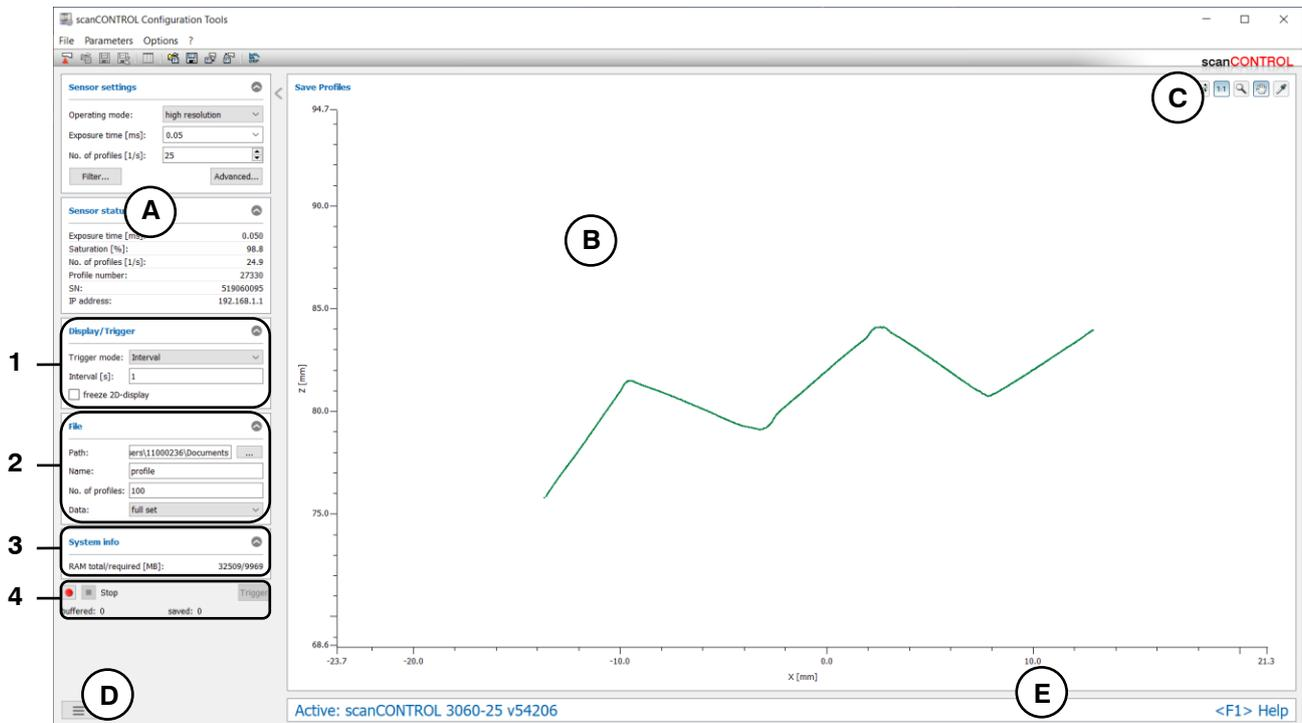

Fig. 4.58: "Save Profiles" program
- **manual:** Buffering of the individual profiles is triggered with the "Trigger" button (see Fig. 4.58, section 4).